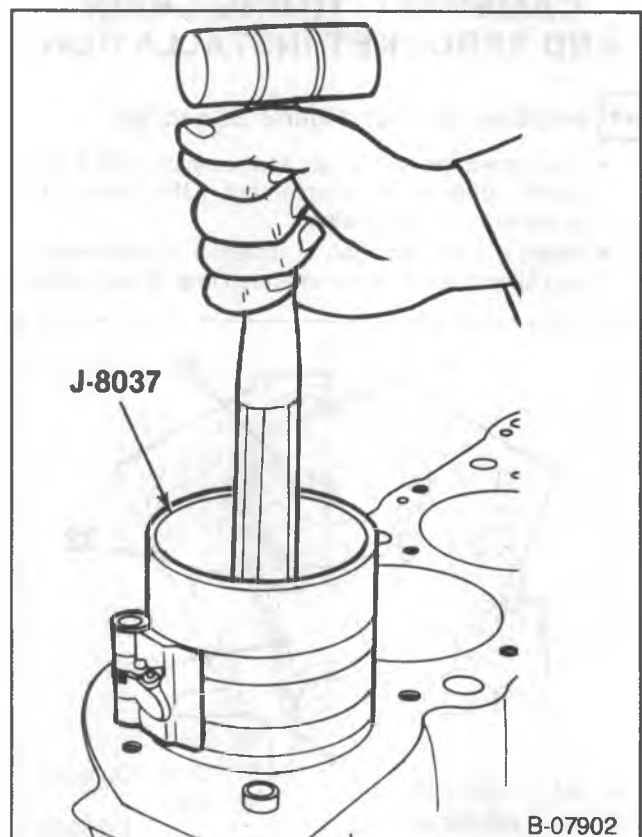

Figure 35—Installing the Piston
- Use a hammer handle to tap the piston down into its matching bore (figure 35).